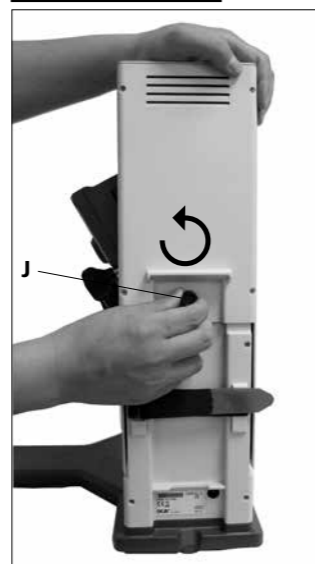

Fig. 8
2.) Remove transportation lock (Fig. 8)